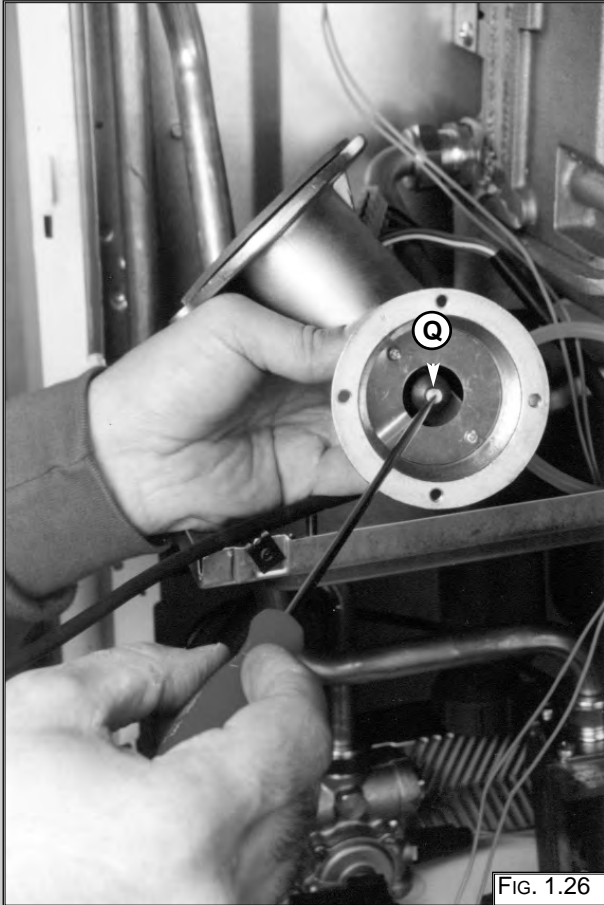

FIG. 1.26
3. Unscrew the injector "Q" using a suitable screwdriver (FIG. 1.26);